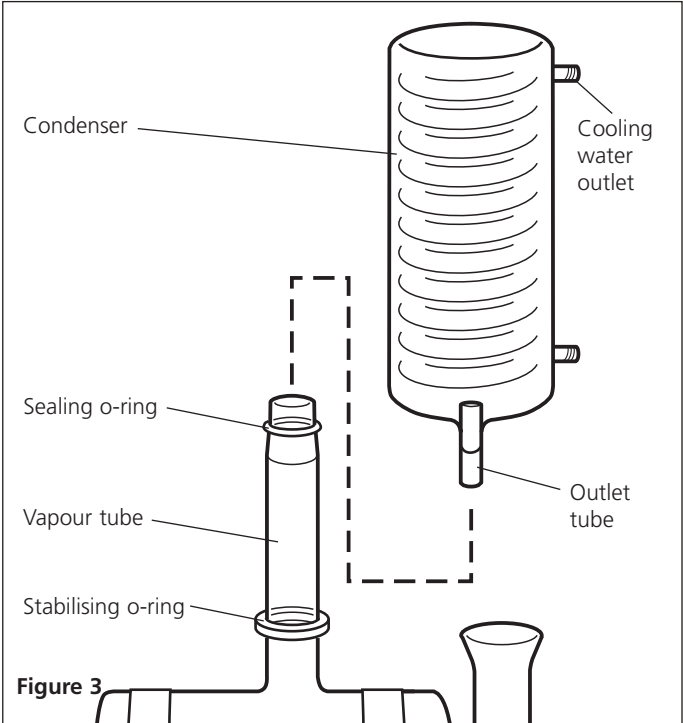

Figure 3
5.   Ensure that the sealing o-ring and stabilising o-ring are correctly positioned, as shown in Figure 3. Fit the condenser WC48/M2 by